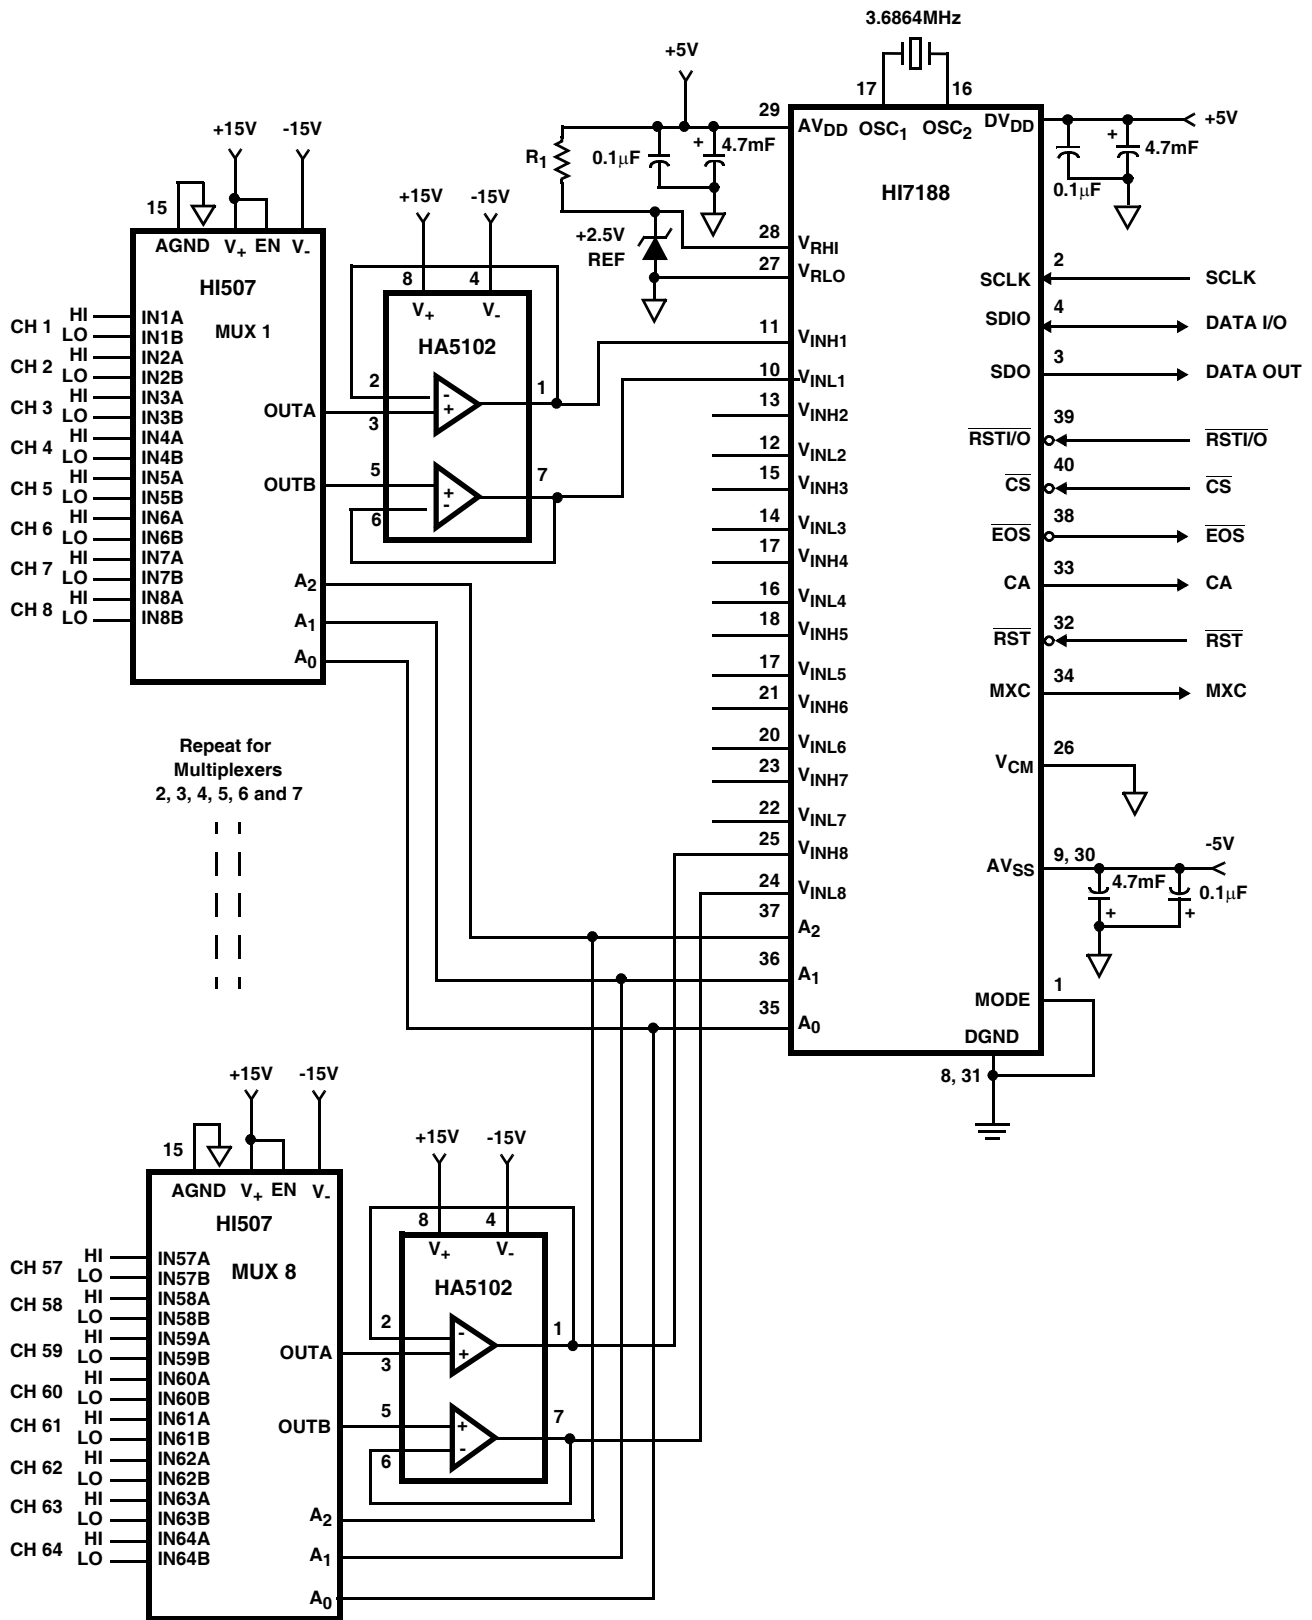

FIGURE 1. HI7188 MULTIPLEXING CIRCUIT
The HI7188 multiplexing circuit is shown in Figure 1. This includes the HI7188 Sigma-Delta A/D converter, (8) HI507 eight channel differential multiplexers and the (8) HA5102 dual ultra-low noise operational amplifiers.
amplifiers. The op amps are used in unity gain to buffer the inputs of the HI7188 and to reduce the loading of the HI7188 differential inputs. In addition, the multiplexer on resistance (R_{ON}) varies with applied voltage. If left unbuffered this change of R_{ON} will cause linearity errors. The op amp has been designed for ultra low noise (4.3nV/ $\sqrt{\text{Hz}}$) applications and a high CMRR (95dB). The op amp outputs are then connected to the HI7188 differential inputs labeled V_{INH} and V_{INLO} . This basic cell of Multiplexer and Op Amp buffers are repeated for all eight HI7188 differential inputs as shown in Figure 1.
The CR functionality is well covered in the datasheet so it will not be discussed in this application note. The focus will be on the CCR programming since the multiplexer selection is defined by these registers for this application. It is therefore critical the user is well versed in the use of the CCR [1]. From the CCR the physical channel address, calibration, PGIA gain and unipolar/bipolar mode are set. For multiplexer selection, the particular logical channel bits of interest are 7, 6, and 5 which set the physical channel address. The physical channel address is used to select the proper multiplexer block shown in Figure 1. During the conversion
The multiplexer and op amp portion of Figure 1 was built using a standard single-sided breadboard. The output of the op amps were then connected the HI7188 evaluation board [2] using 8 inch twisted pair wires. Testing of the overall circuit performance included both noise and linearity. The noise measurements consisted of grounding the HI507 inputs and datalogging 100 conversions. The peak to peak noise is defined as the difference between the minimum and maximum measured values. Linearity testing involved incrementing the input voltage in 0.5V steps starting with -2.495V and ending at +2.495V. The linearity error is the difference between the input voltage and displayed conversion results. There was no degradation in performance of either noise or linearity seen in this application circuit versus just the HI7188 evaluation platform.